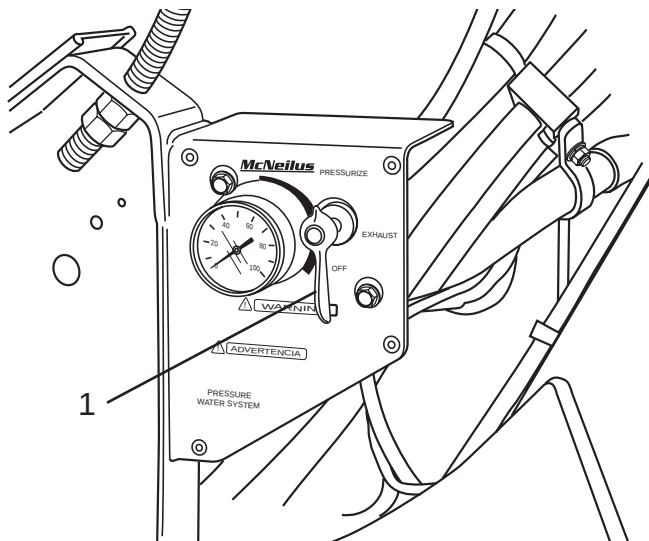

Figure 76
2. After pressure in the water tank has been completely exhausted, turn the air pressure control valve to the OFF position (Figure 76, Item 1).